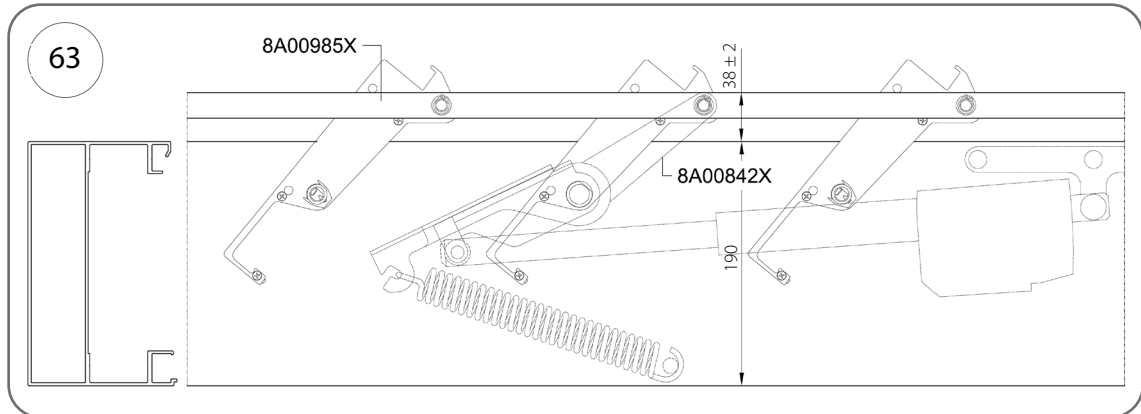

Fig. 63
2. Set the open end position as shown in Fig. 63.